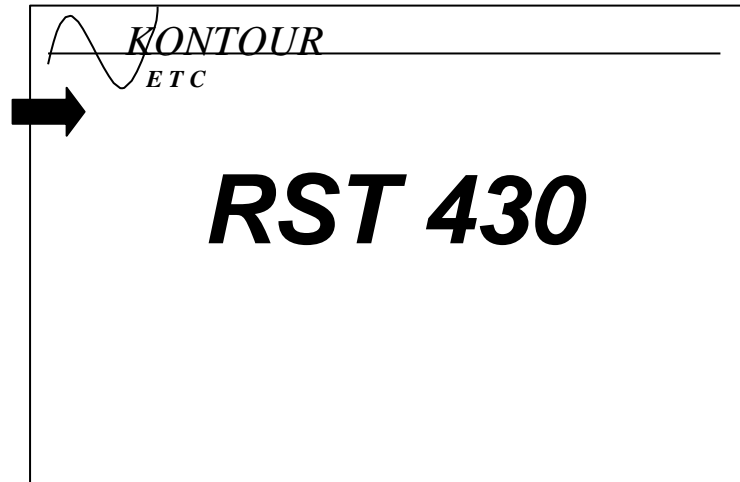

Fig.3
- 4.6. Press the power-on button. The screen of the tester must display a startup screen (fig.3) indicating that the device is ready for operation.